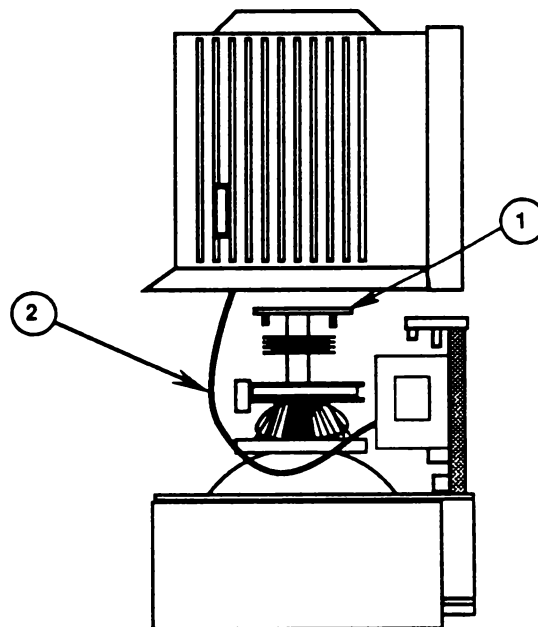

FIGURE 3
5. Carefully pull the rear cover up until it clears the CRT board (Figure 3, #1) at the end of the CRT neck.
CAUTION: The rear cover cannot be completely removed until the power switch cable (Figure 3, #2) is disconnected from the power supply board, as directed in Step 7.